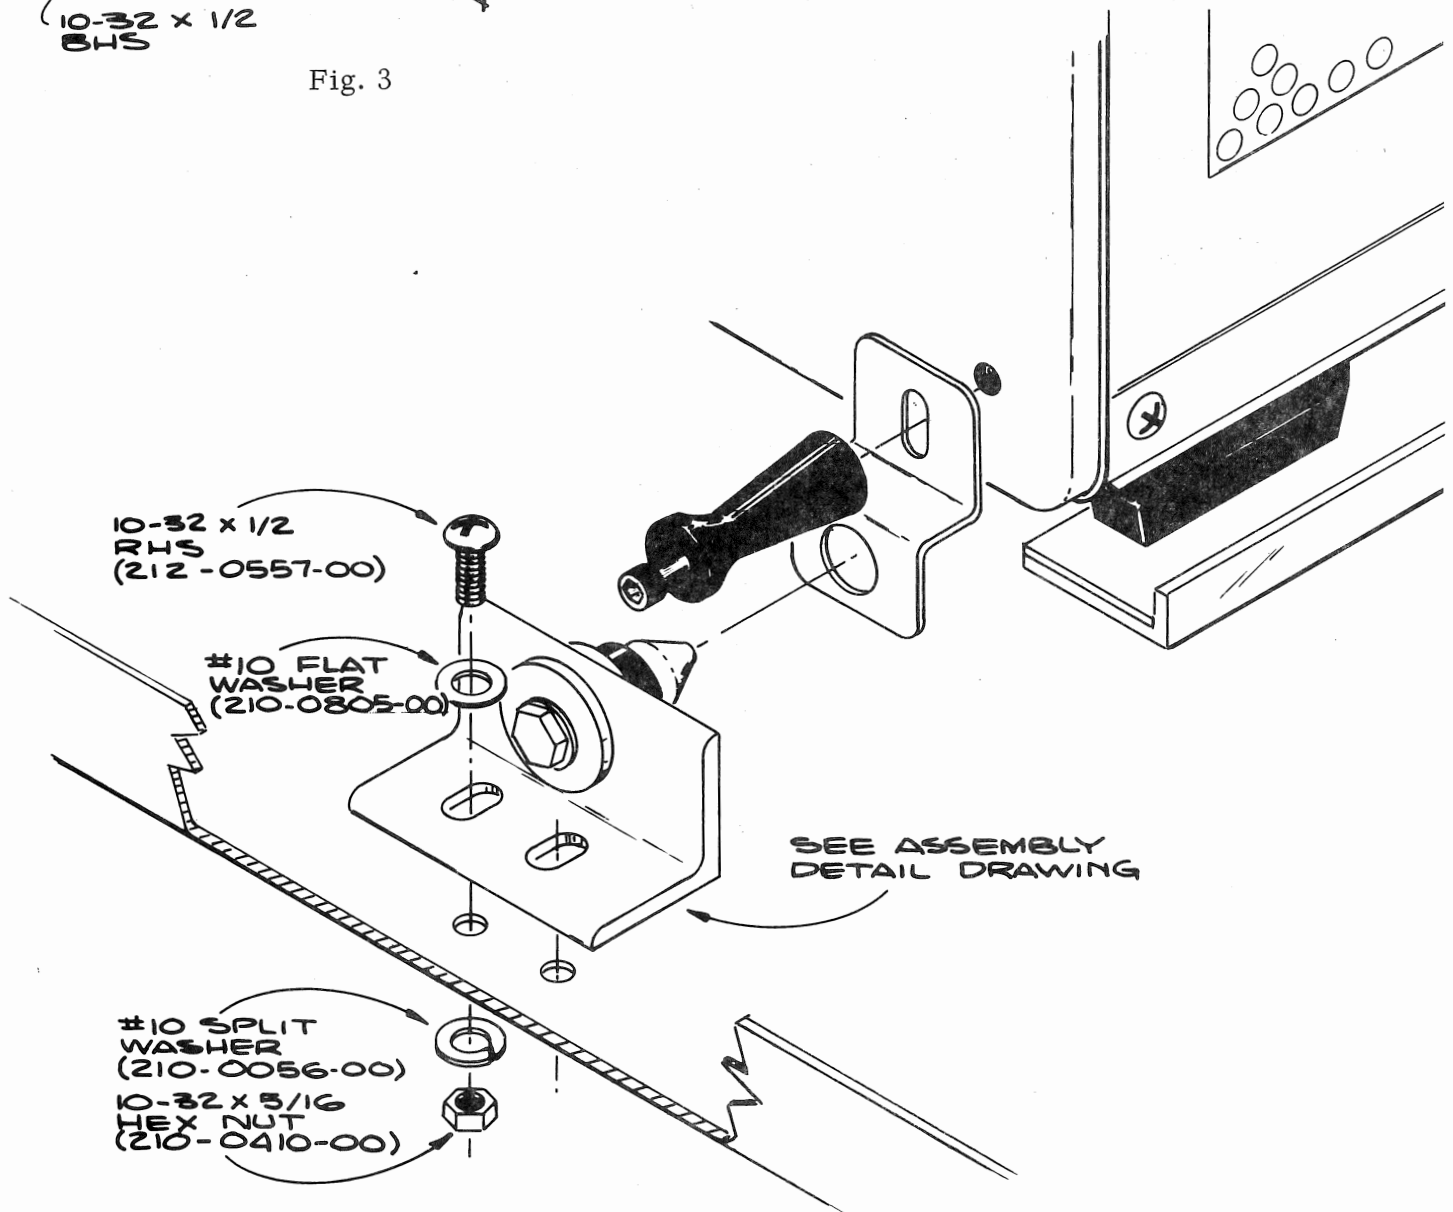

Fig. 4
- ( ) 4. Remove the right-hand rear foot and mount the double angle bracket (from kit) as shown in Fig. 4.